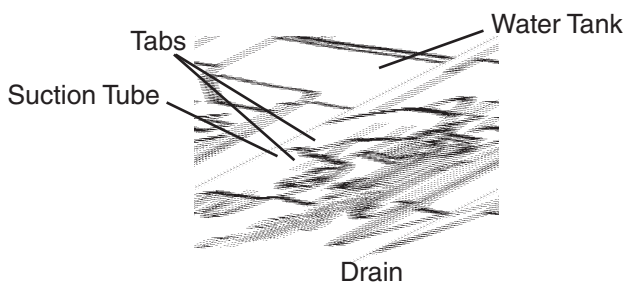

Fig. 34
- 3) Inside the ice storage bin, disconnect the suction tube by squeezing the tabs and pulling the tube clear. See Fig. 34. Allow the water tank to drain.